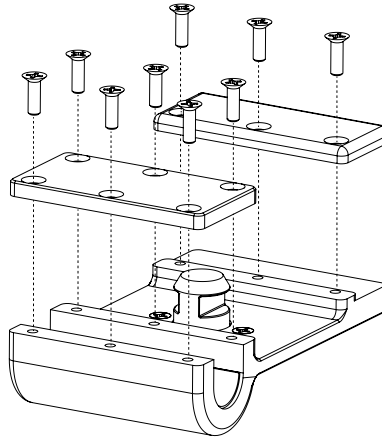

Figure 17: Separating the clamp block parts
2. Unscrew the nine (9) screws of the clamp block using a Phillips screwdriver to separate the three (3) parts of all four (4) clamp blocks (Figure 17).